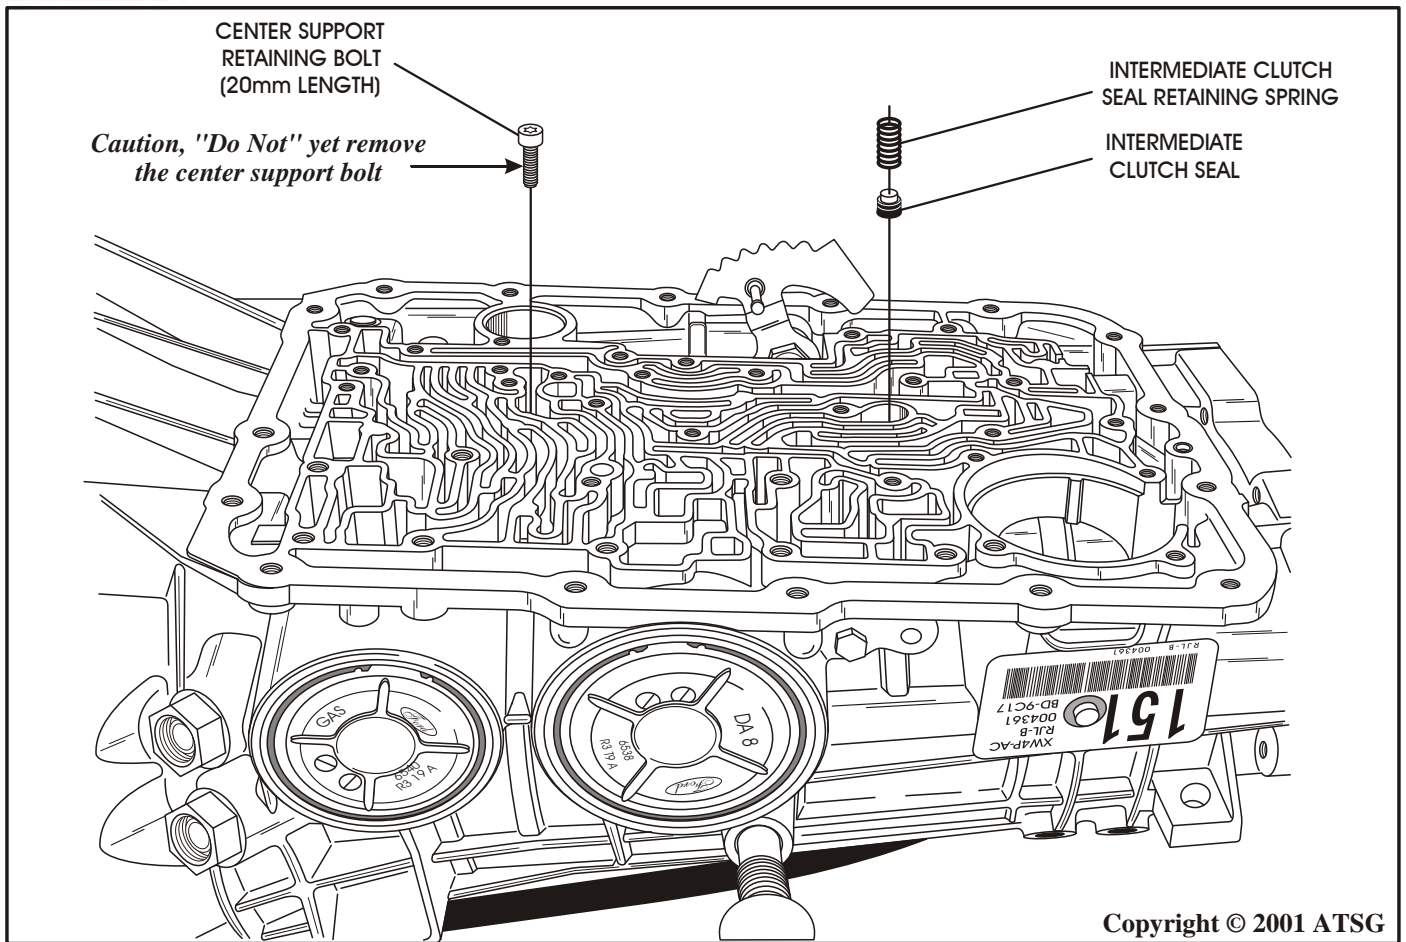

Figure 34
28. Remove the intermediate clutch seal retaining spring, remove and discard the intermediate clutch seal, as shown in Figure 34.